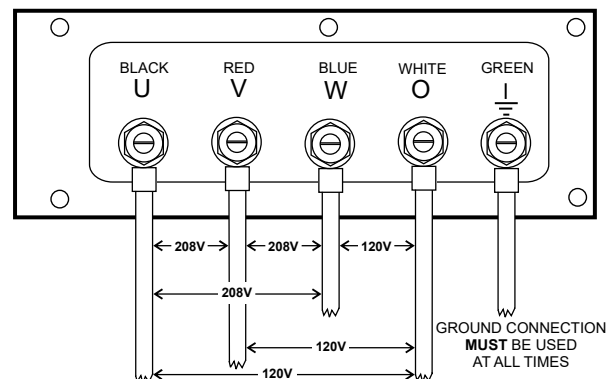

Figure 17. UVWO Terminal Lugs
3. Connect the load wires to the **UVWO terminal lugs** as shown in Figure 17.